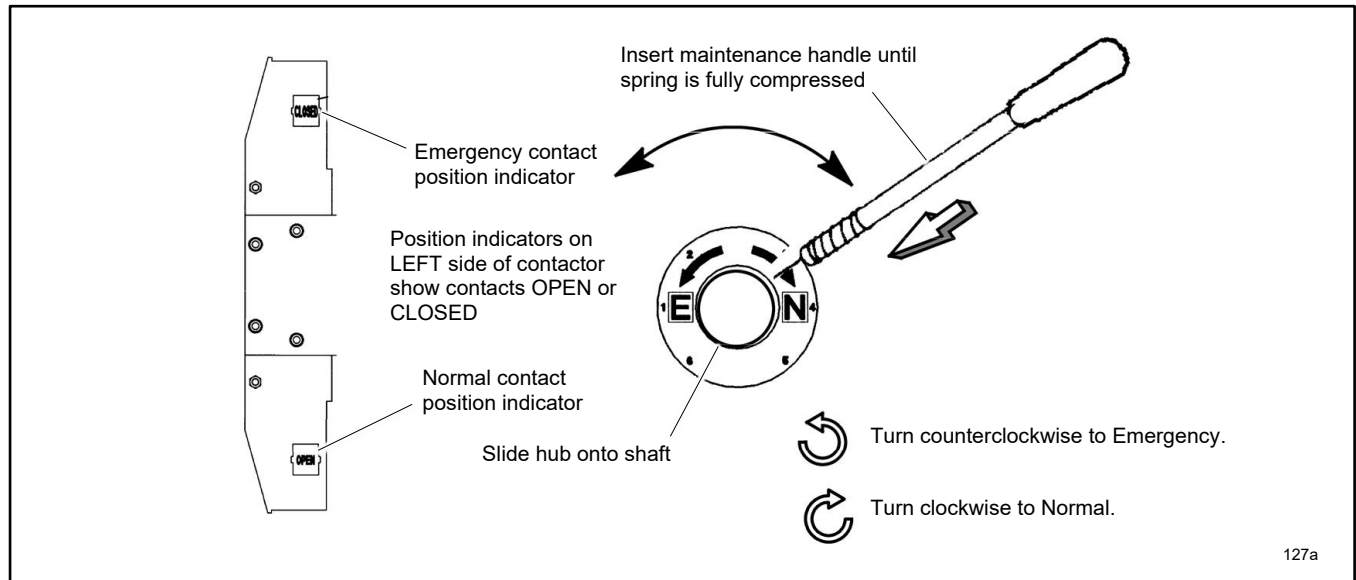

Figure 11 Manual Operation, 1600-4000 Amp Model KCS
3. **See Figure 11.** Insert the maintenance handle into the hole in the molded hub.